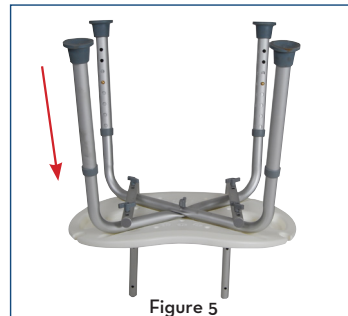

Figure 5
6. Insert legs (G) into leg frames by depressing push pins, sliding legs over the receptacle and setting to desired height. Make sure all the legs are set to the same height (Figure 5).